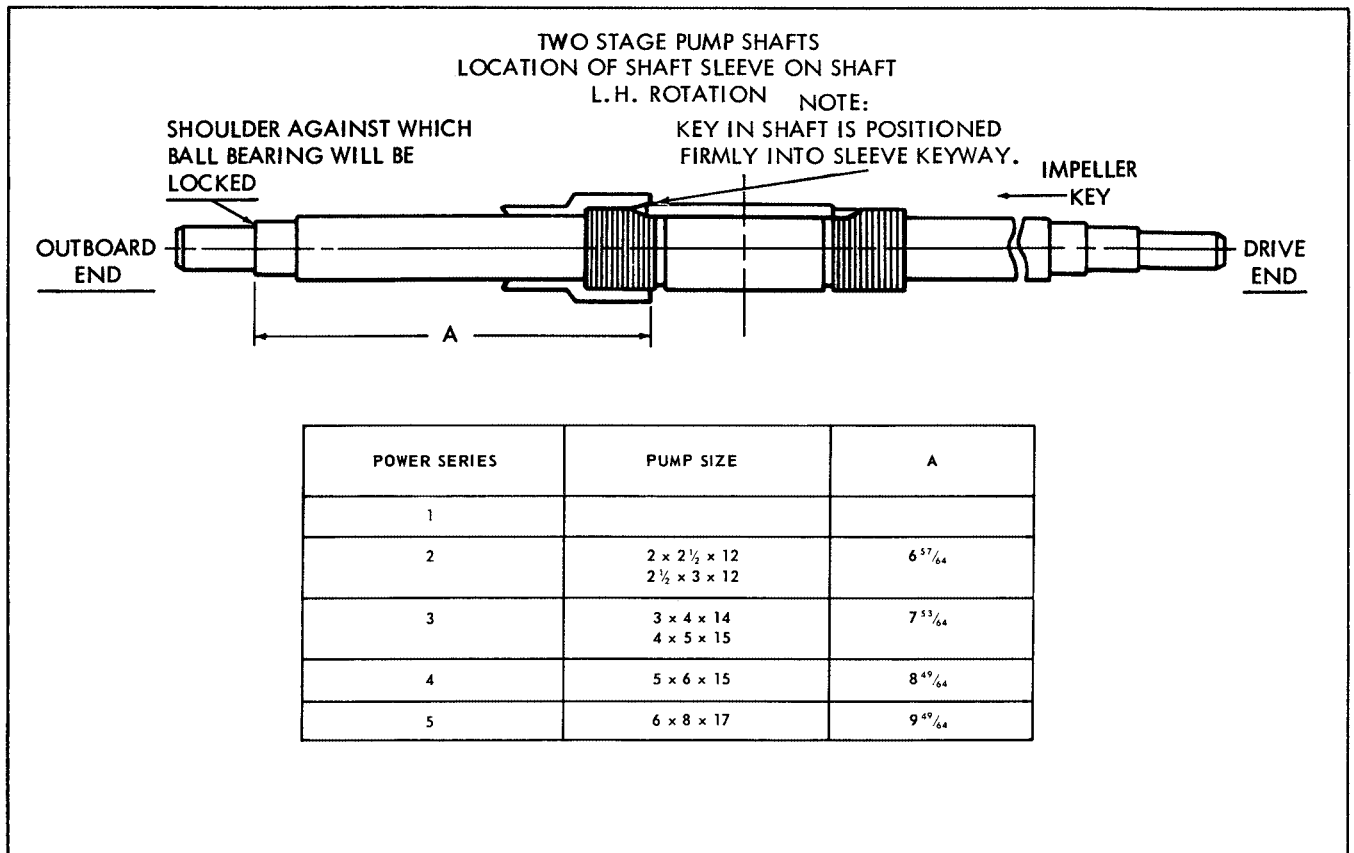

Figure 3
thread outboard sleeve (57) onto shaft distance "A" (refer to Figure 3). When sleeve is in position, its keyway should align